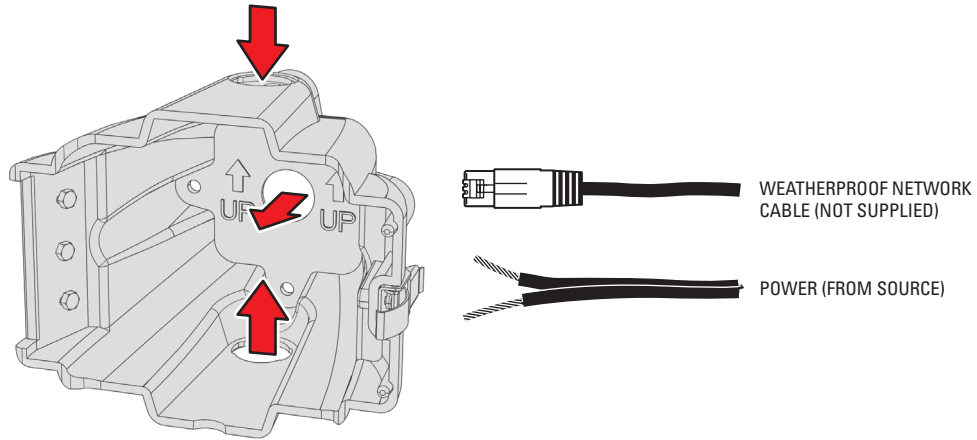

Figure 14. Routing Power and Network Cables
5. Identify the best route for the power and network cables into the J-box (refer to Figure 14).
7. Route the power and network cables into the J-box through the top, back, or bottom opening (refer to Figure 14).